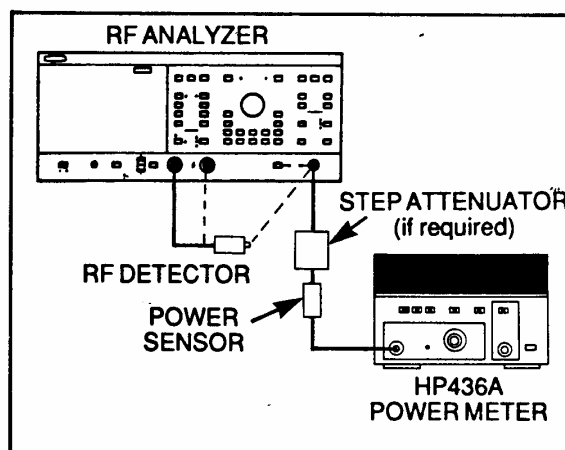

Figure 5-3. Test Setup for Signal Path Accuracy
2. Setup test equipment as shown in Figure 5-3, and turn the equipment on.
- (b) Connect the power meter as shown in Figure 5-3.
- (1) Press the SYSTEM FUNCTIONS, RESET key, then the NETWORK ANALYZER, MENU SELECT key to return to the default settings.
- (2) Press the NETWORK ANALYZER, CHANNEL A and CHANNEL B ON/OFF keys to OFF.
- (3) Press the SOURCE, FREQUENCY WIDTH key; enter 0 MHz when the menu appears.
- (4) Press the FREQUENCY CENTER key and enter 50 MHz.